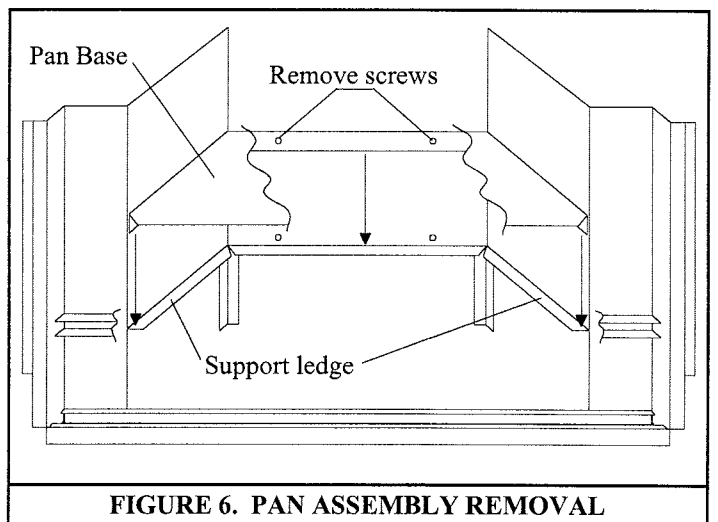

FIGURE 6. PAN ASSEMBLY REMOVAL
STEP 4. Remove the two screws located at bottom rear of burner pan. Lift complete burner assembly, up and out of unit to clear support ledge. See figure 6.
Have the fireplace installation inspected yearly, including a visual check of the vent system, the burner and the pilot flame. For your convenience a 1/8" pressure tap is supplied on the gas valve for a test gauge connection. See Figure 6. This appliance requires a minimum gas pressure of 7" W.C. for natural gas and 11" W.C. for propane. Always keep the fireplace area clear and free of combustible materials, as well as gasoline and other flammable vapours and liquids. Use a vacuum cleaner or whisk broom to keep the control compartment, burner, and firebox free from dust and lint. Logs maybe cleaned periodically with soap and water to remove soot and other contamination.